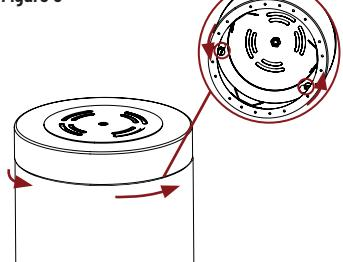

Figure 7
8. Connect ideal connector from LED driver to Onyx reflector. (Figure 7)